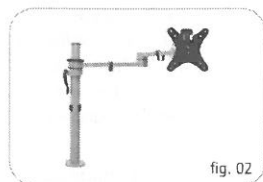
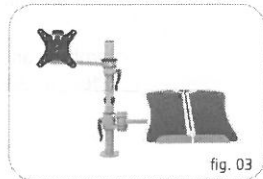

fig. 02
fig. 03
2. Available as a double arm (fig. 01), single arm (fig. 02) and laptop support (fig.03).